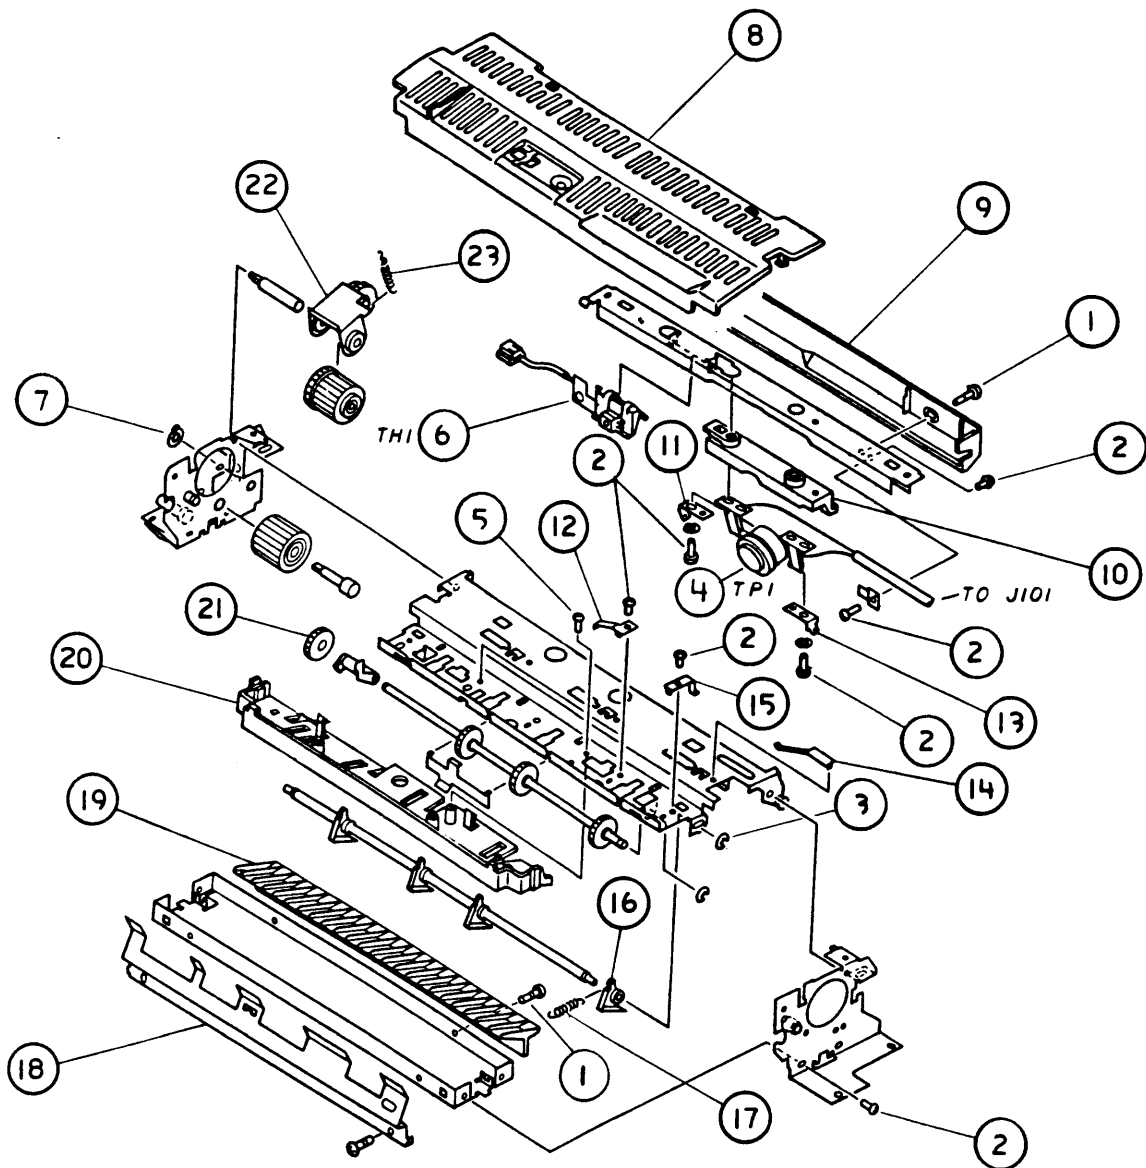

FIGURE 16
□ LASERWRITER – FUSER ASSEMBLY (1 of 2) (Figure 16)